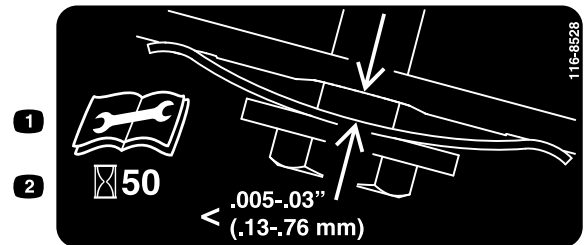

Figure 32
3. Hold a feeler gauge set between 0.13 and 0.76 mm (0.005 and 0.03 inches) against the wall and slide it down behind the belt tension spring; refer to Figure 32.